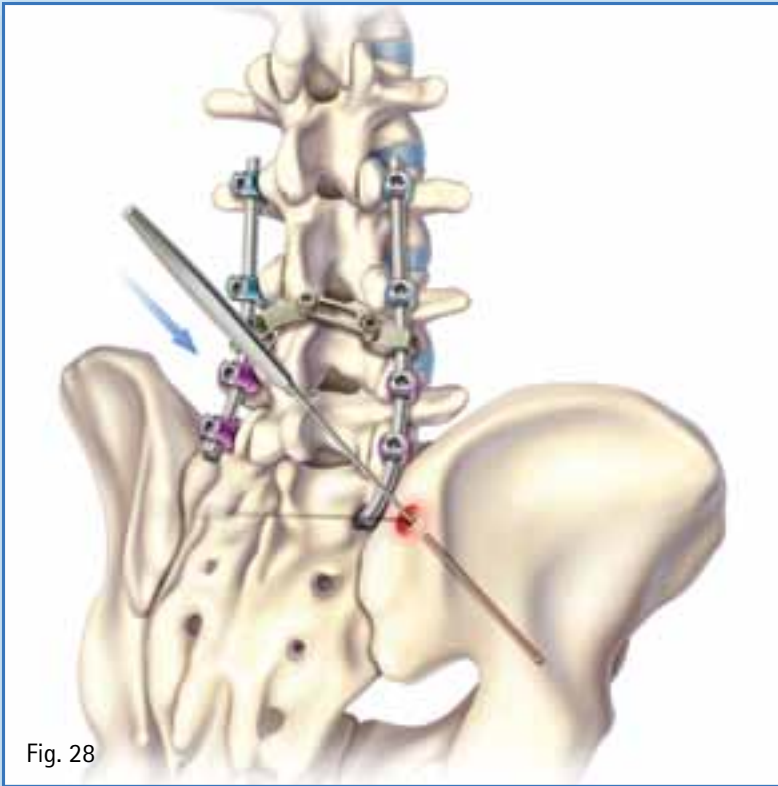

Fig. 28
- Utilize the straight or curved (FW146R or FW147R) pedicle sounder to confirm the patency of the Ilium canal. Stop every few centimeters during perforation to check integrity of the canal. (Fig. 28)